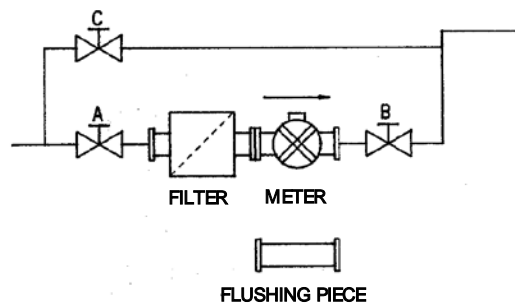

Figure 5 Flowmeter system with bypass
4. Close valves A, B and C (Fig. 5).